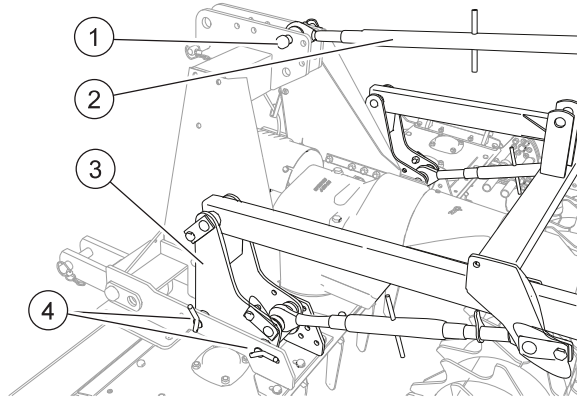

FIG. 16
- Place the hitch onto the machine: insert the lower hitches (3, “Fig. 16”) onto the plates at the basis of the three point hitch frame.
- Fasten the lower hitches with the pins (4).
- Connect the tie rod (2) to the machine three-point hitch.
- Fasten the tie-rod with the pin (1).